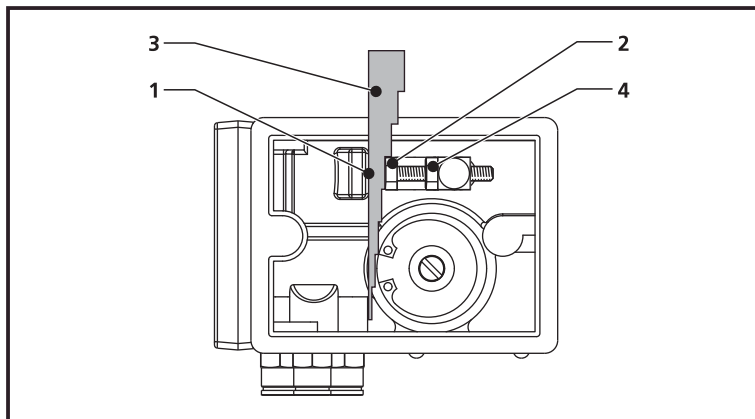

Figure 5.3 Setting the brake impulse
2. Set the distance (Figure 5.3/L) between the left-hand side of the striker (1) and the head of the adjusting bolt (2). The distances equivalent to a specific number of pulses are shown on the transparent cover. A feeler-gauge (3) is fixed to the inside of the cover and can be used to set this distance. The tool is marked with the number of pulses related to each thickness.
3. Tighten the lock nut (4) of the adjustment bolt.